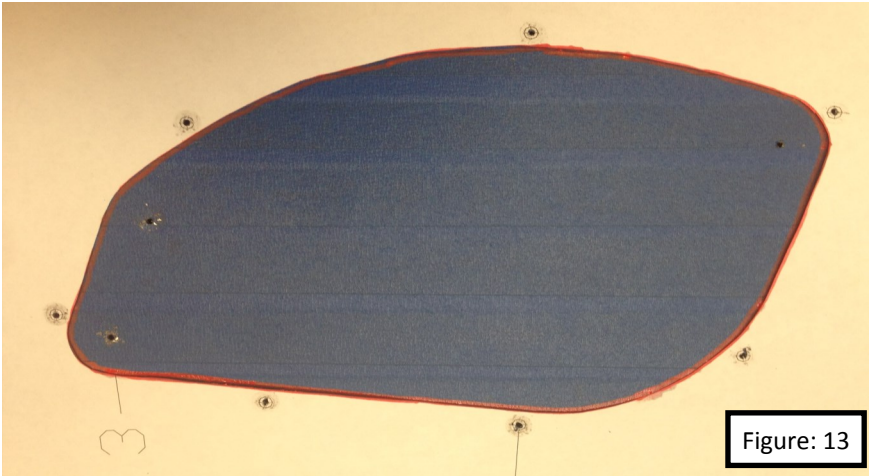

Figure: 13
17. Trace the shape of the side hood vent hole that will be cut into the hood. Figure: 13